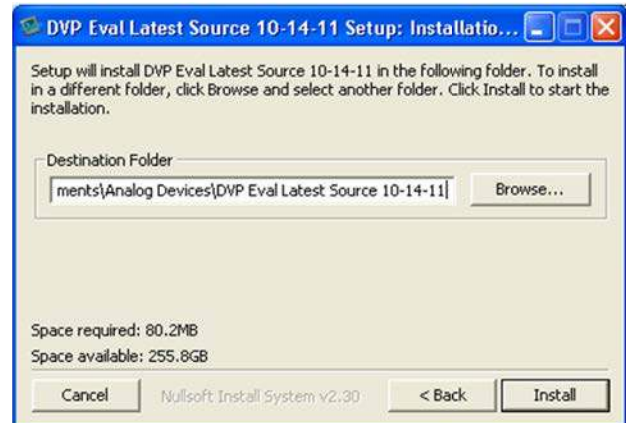

Figure 4. Installation Destination for DVP Eval Software
4. Select an installation destination folder and click the **Install** button (see Figure 4). It is recommended to use the default destination folder. Selecting a different destination folder can cause compatibility issues with some versions of the Windows® OS.